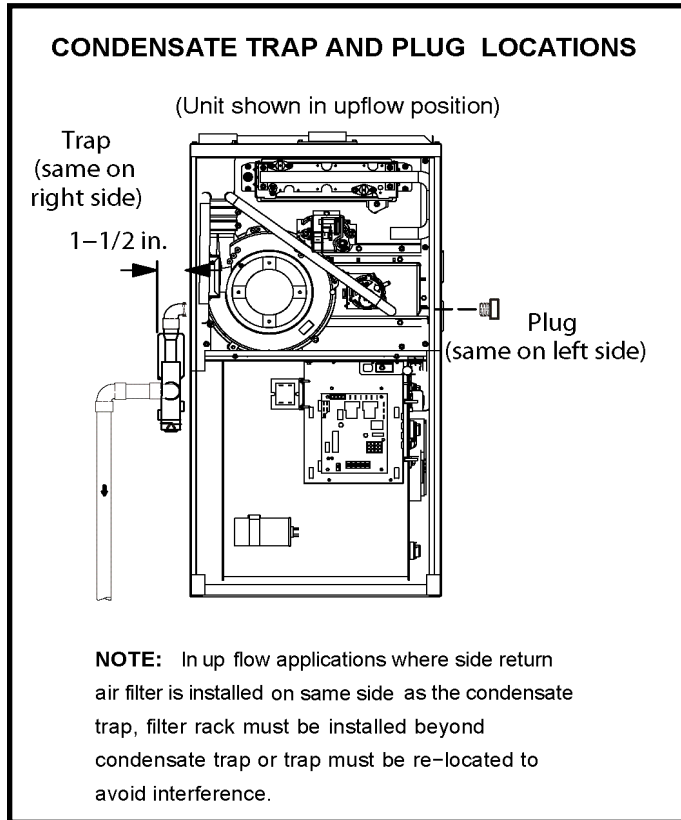

Figure 50
This unit is designed for either right or left side exit of condensate piping in upflow applications. In horizontal applications, the condensate trap must extend below the unit. An 8" service clearance is required for the condensate trap. Refer to Figure 50 for condensate trap locations. Figure 57 shows trap assembly using 1/2" PVC or 3/4" PVC.
2. Use a large flat head screw driver or a 1/2" drive socket extension and remove plug (Figure 50) from the cold end header box at the appropriate location on the side of the unit. Install provided 3/4 NPT street elbow fitting into cold end header box. Use Teflon tape or appropriate pipe dope.